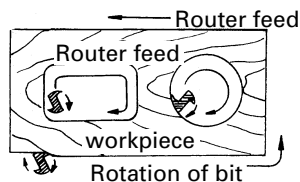

Fig. 16
- (3) The bit rotates clockwise (arrow direction indicated on the base). To obtain maximum conformance with the feed directions shown in Fig. 16.